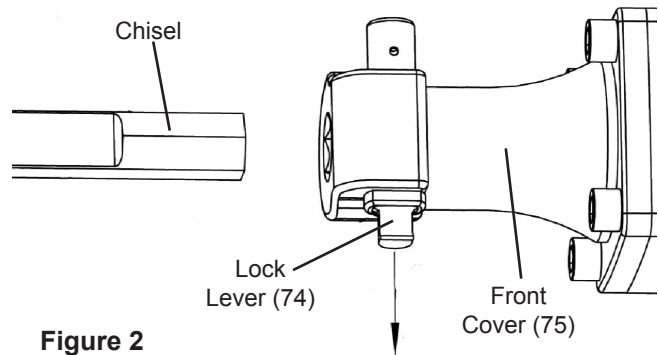

Figure 2
2. Turn Lock Lever (74) 180° and slide out.
3. Insert the shank portion of the chisel into Front Cover (75). See Figure 2, below.